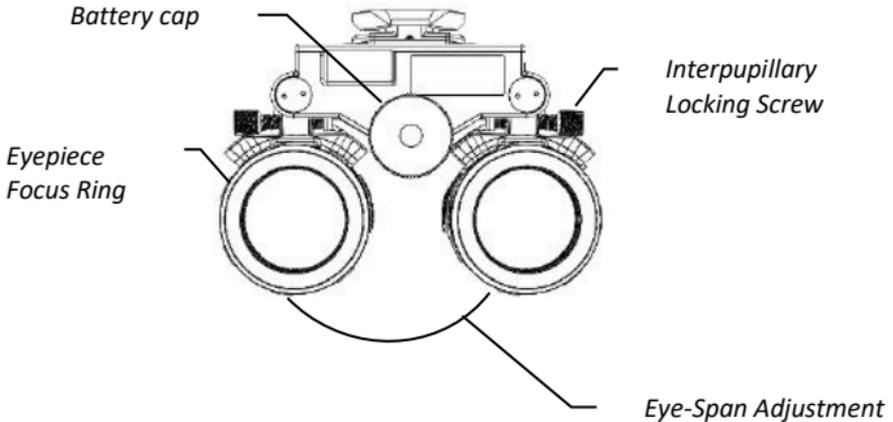

Figure 2-1. NORTIS-BNVS-31 Controls and Indicators
The NORTIS-BNVS-31 is designed to adjust for differences in head shape and most differences in eyesight. Figure 2-1 and Table 2-1 describe the controls and indicators.
- (2) Turn the power switch to the ON position.
- (3) Squeeze or turn the fore/aft adjustment knobs on the helmet mount to move the binoculars away from the eye as far as possible without losing the field of view. This maximizes peripheral vision around the NORTIS-BNVS-31.
- (4) Move the monocular goggles closer together or farther apart to adjust the eye-span distance for the proper spacing between your eyes (see Figure 2-1). When properly adjusted, the edges of the images in both monocular goggles will be clear and the resultant binocular view will appear as a single circle or as two circles, overlapped and slightly displaced laterally. Secure the distance by using the screws (see Figure 2-1).
- (5) Squeeze or turn the fore/aft adjustment knobs to move binoculars closer to the eyes as desired for individual preference without your eyelashes touching the eyepiece lenses. A 25-mm eye-relief distance provides the optimal field of view for the 25-mm eyepieces.
By making fine eye-span and vertical adjustments, move the binocular toward the blurred edges until you get a clear circular image. Lock the interpapillary position, by using the screws (see Figure 2-1). .